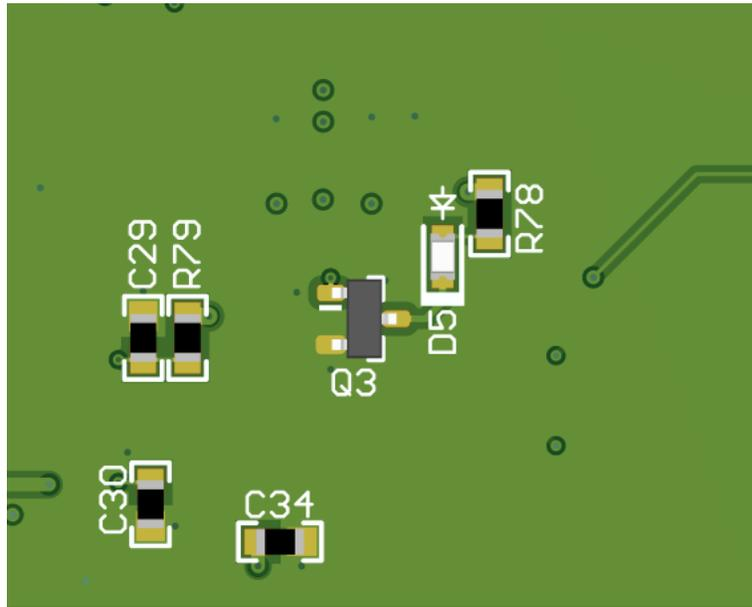

Figure 2-1. USB LED
- iii. Click *Identify* to blink LED shown in Figure 2-1. After clicking the *Identify* button, the LED flashes quickly at about 0.5 second on, 0.5 second off for about 5 seconds. This confirms the connection to the board. However, be aware that *USB2ANY* devices connected to the PC, but not attached to a TICS Pro instance, can blink at a slow rate of 1 second on, 1 second off continuously.